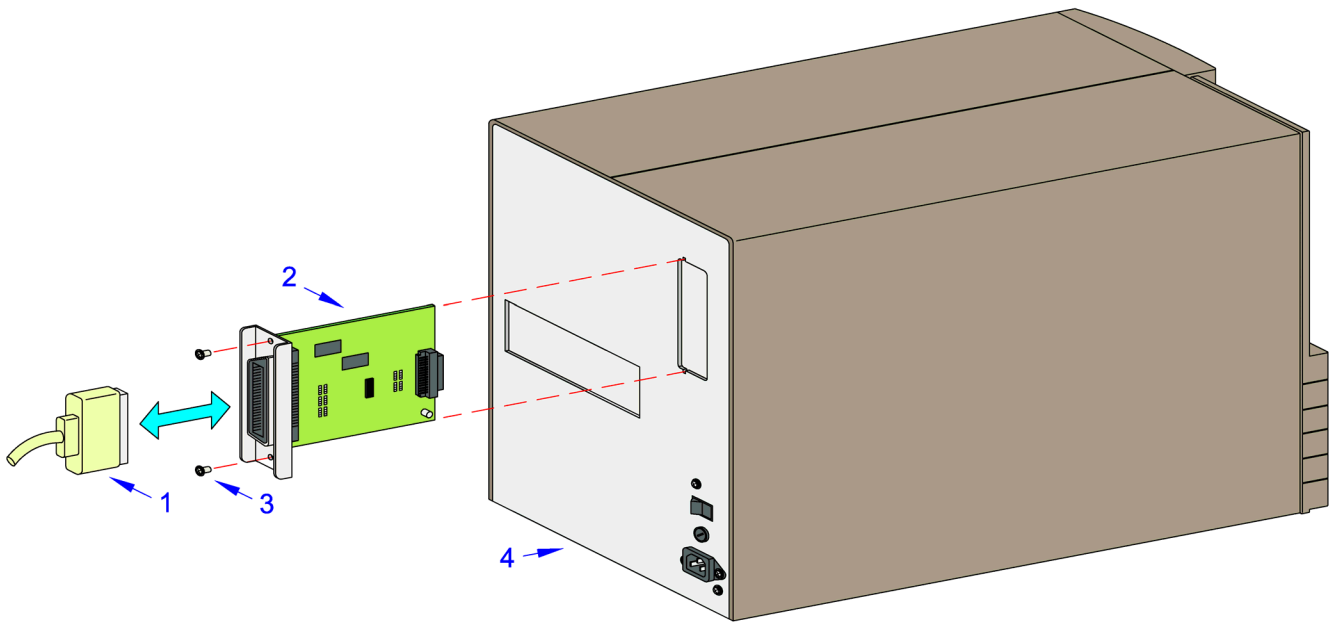

Figure 7-11, Interface Board Replacement
2. Disconnect interface cable (1, Figure 7-11) from defective interface board (2).
3. Remove two screws (3) securing defective interface board (2) to printer (4).
4. Insert replacement interface board (2) into printer (4) and secure using two screws (3).
5. Connect interface cable (1).